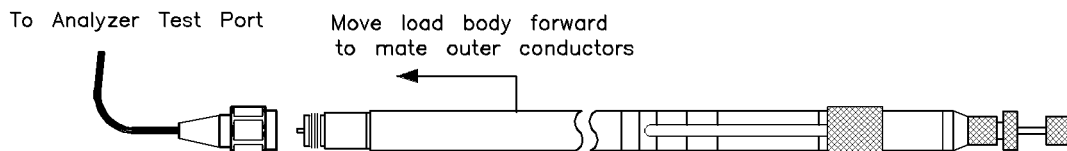

Figure 4-11. Connecting the Sliding Load
1. Refer to Figure 4-11. Loosen the center conductor pull back nut completely. Press the center conductor cap to extend the center conductor of the sliding load beyond the end of the connector.